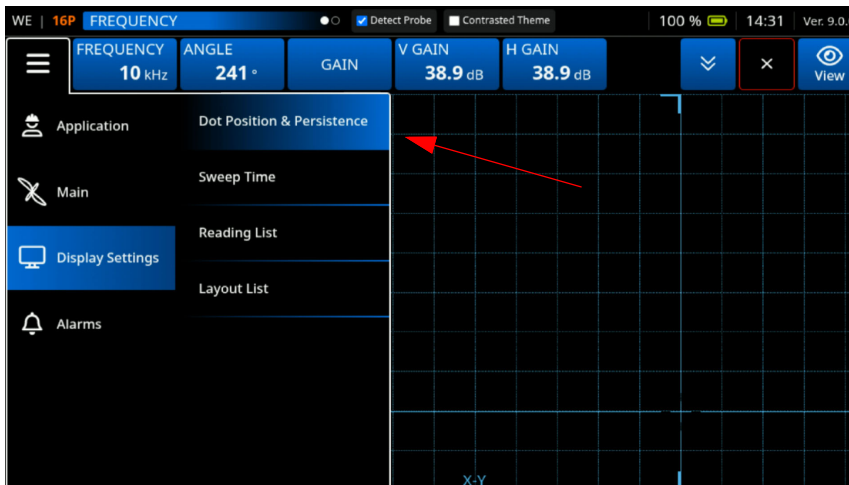

Figure 3-47 Select Dot Position & Persistence
4. Select **Display Settings** and **Dot Position & Persistence** (See Figure 3-47 on page 78).